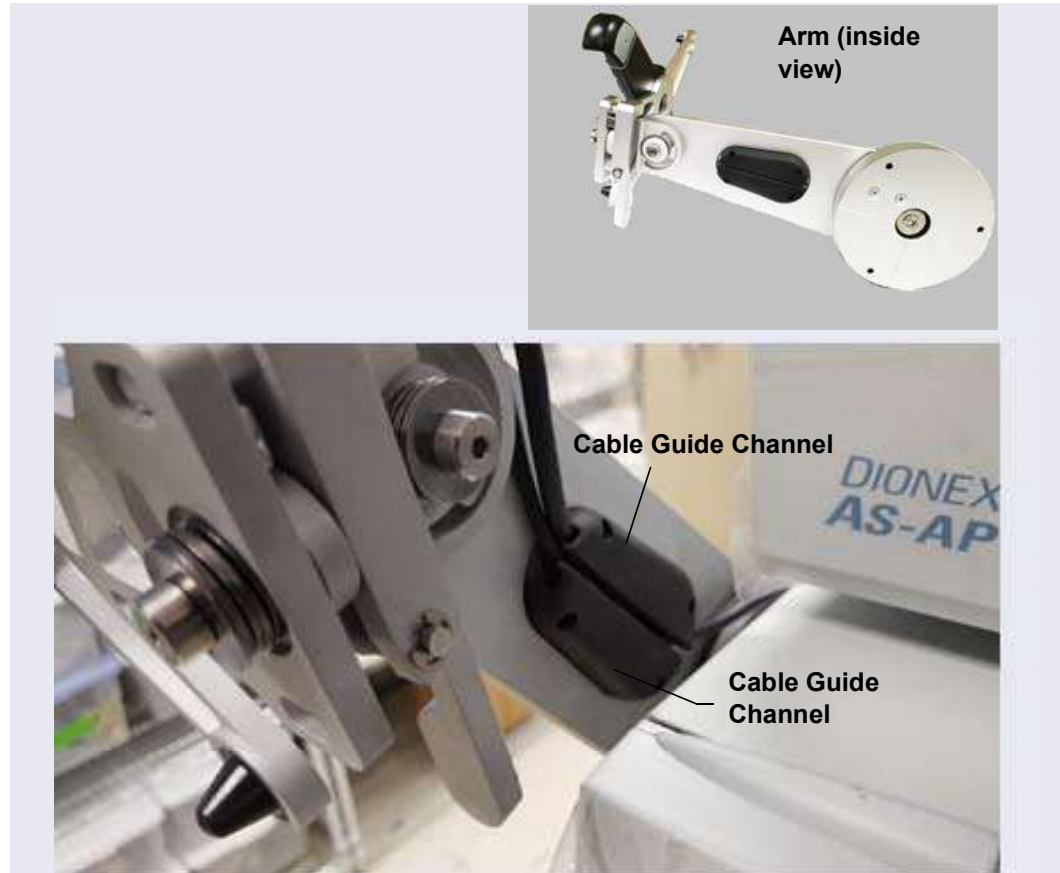

Figure 3-34. Mounting Arm Cable Guide
7. Route both the Ethernet and tablet power cables through the tablet arm cable guide (see Figure 3-34) and back toward the tablet holder.